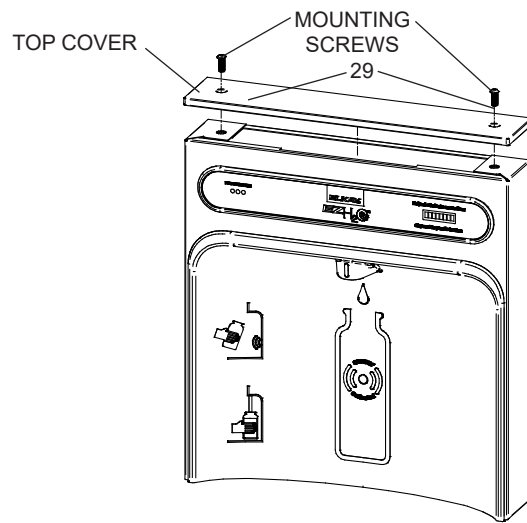
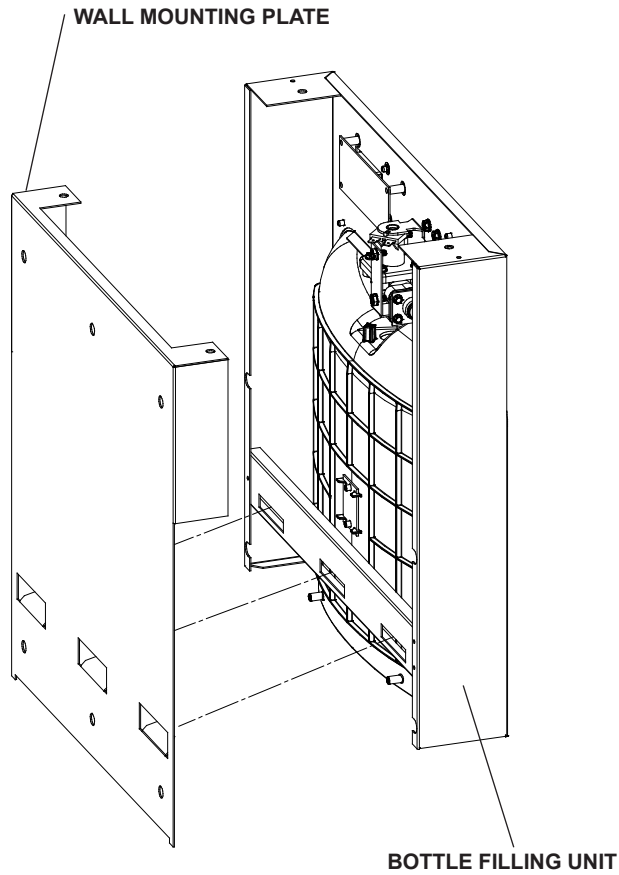

Fig. 5
Fig. 8
- 1) **Remove two (2) mounting screws** with 5/32" Allen wrench holding top cover to Bottle Filler (See Fig. 5). Remove top cover. Note do not discard mounting screws, they will be needed to **reinstall top cover**.
- 8) **With the power cord** and waterline through hole on top of water cooler place Bottle Filler on the three (3) angled tabs protruding from the wall mounting plate installed on wall. Make sure round boss in gasket fits in hole of basin. (See Fig. 8).
- 9) **Once Bottle Filler** is installed on wall plate tabs, water line and power cord are installed properly, push top of Bottle Filler toward wall and line up top cover two (2) holes.
- 10) **Reinstall Top Cover** on Bottle Filler (See Fig. 5) with two mounting screws from step 1 above. Caution, do not over tighten screws.